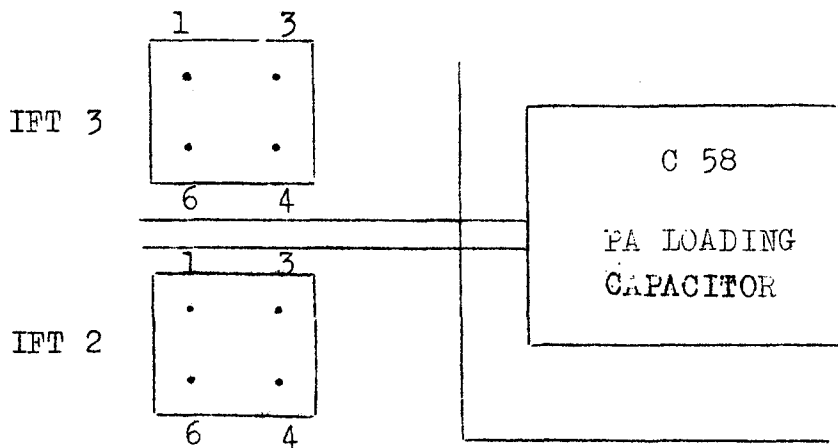

FIG. 2 - 5
1. Delete section 2 -4 (2)
2. Insert following section 2 - 4 (2)
- 2 - 4 (2) Band Pass I.F. alignment
- (c) Connect the swamping tool from pin 4 of IFT 2 to earth (see Fig 2 - 5)